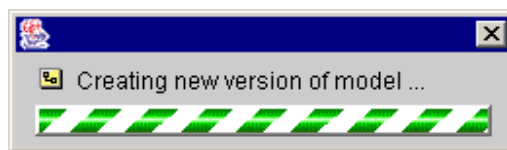

Figure 87 : New model version creation
- A bar graph (Figure 87) indicates that the new *Equipment_E* version is in course of creation